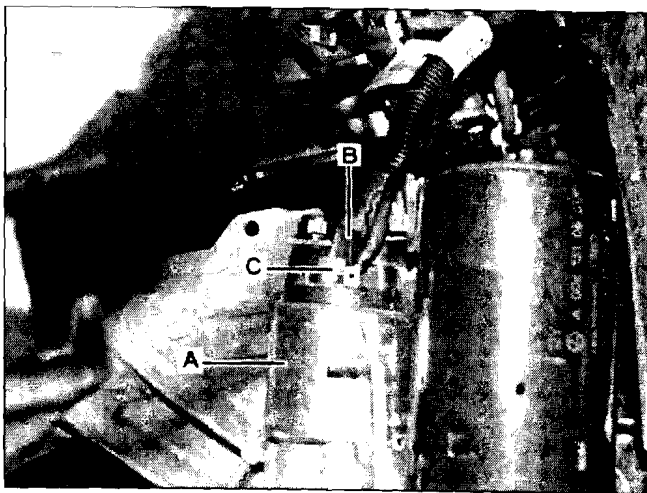

Figure 6
- Remove starter (A, Figure 6) from transmission bellhousing with wires still attached.
- Remove cap from electrical connection C30 bolt (B) and remove bolt; remove electrical connection C50 bolt (C).